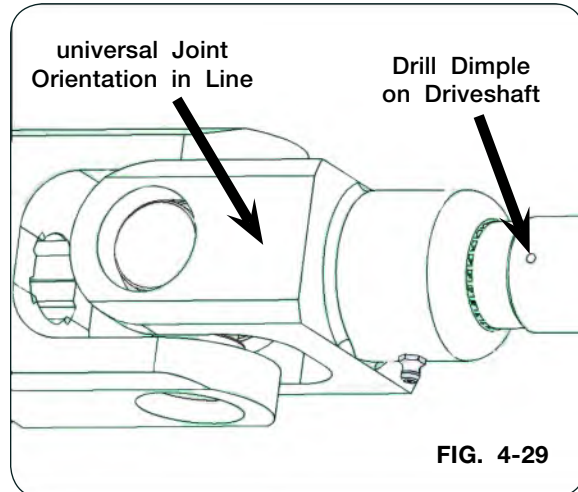

FIG. 4-29
- 14. For alignment of the yoke, the orientation of the universal joint at the gearbox **MUST** be in line with the driveshaft drill dimple when the driveline assembly is attached. (Fig. 4-29, 4-30, and 4-31)
- 15. With bearing mounting hardware completely tightened, drill a setscrew dimple in the drive-shaft by going through the bearing setscrew threaded hole to dimple the driveshaft being careful to not damage threads. Drill the dimple to a depth that setscrews are flush with the bearing prior to applying thread locker and installing setscrews. (Fig. 4-29)